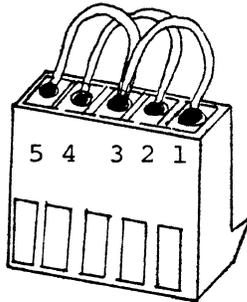

Figure 5-32 J4 Plug at 90-130 VAC
7. Remove the plug from connector J4. Remove the jumper connecting pins #1, #3, and #5. See Figure 5-32 for pin locations.